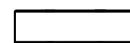
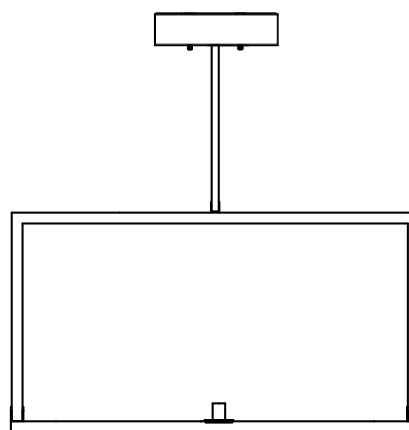

Figure 8
Figure 9
C. Unscrew the loops from the canopy (D) (Figure 8) and thread the other end of rods (E) directly to the canopy (D) (Figure 9).